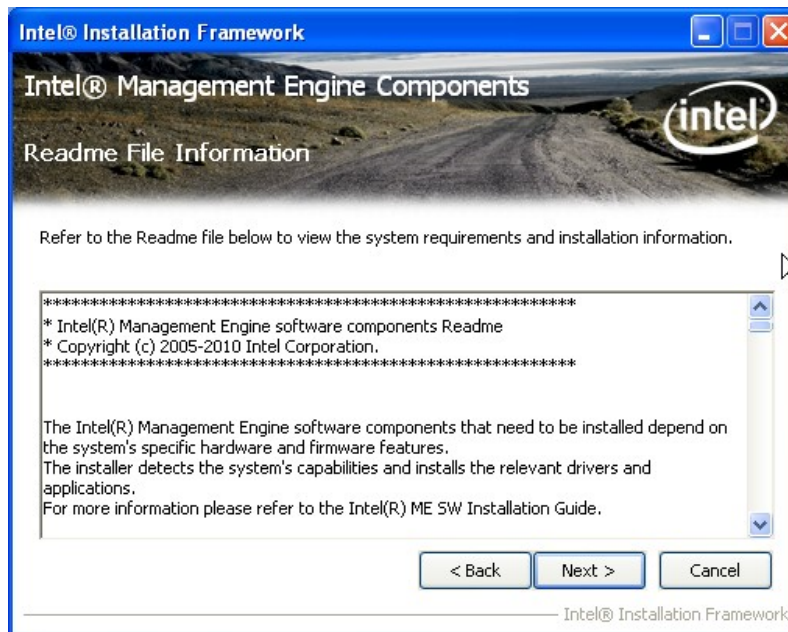

Figure 6-31: Intel® ME Driver Read Me File
Step 10: The Read Me file in Figure 6-31 appears.